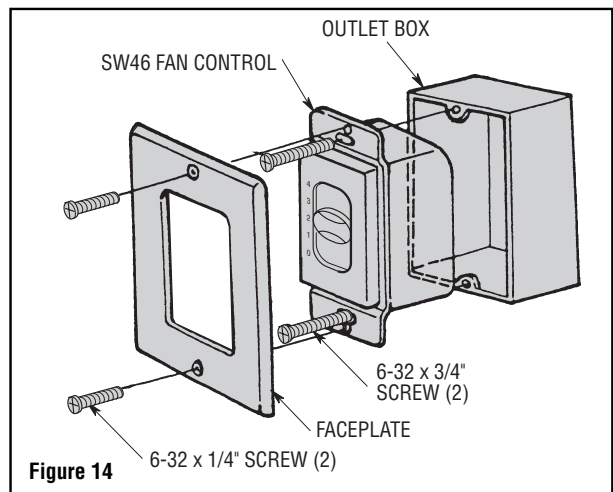

Figure 14
13. Position the faceplate (provided with control) onto the speed control. Using the two 6-32 x 1/4" screws, screw the faceplate and speed control to the wall outlet box (Figure 14).